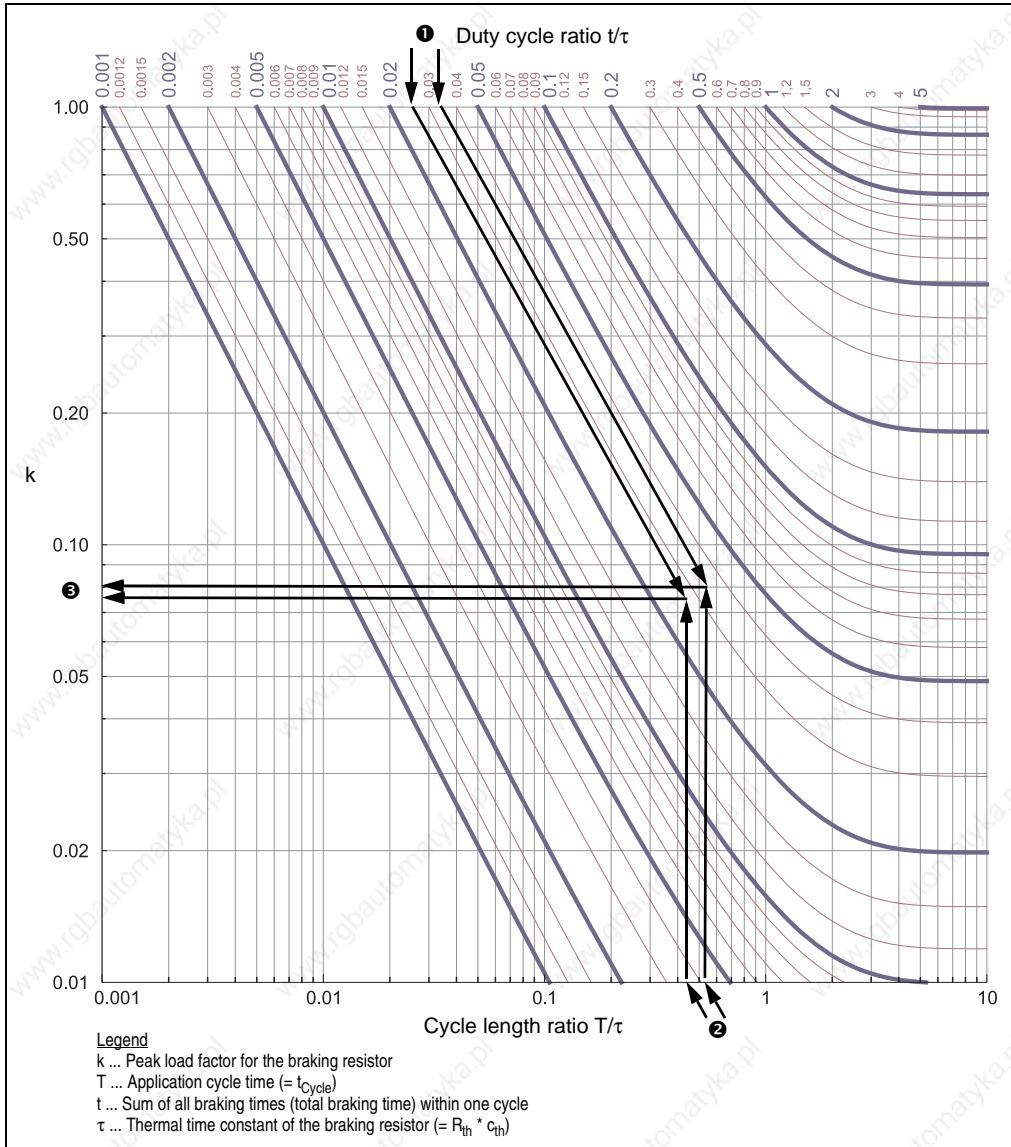

Figure 93: Determining the peak load factor k
### ❸ Reading the peak load factor k based on the values from ❶ and ❷ in figure 93 "Determining the peak load factor k"